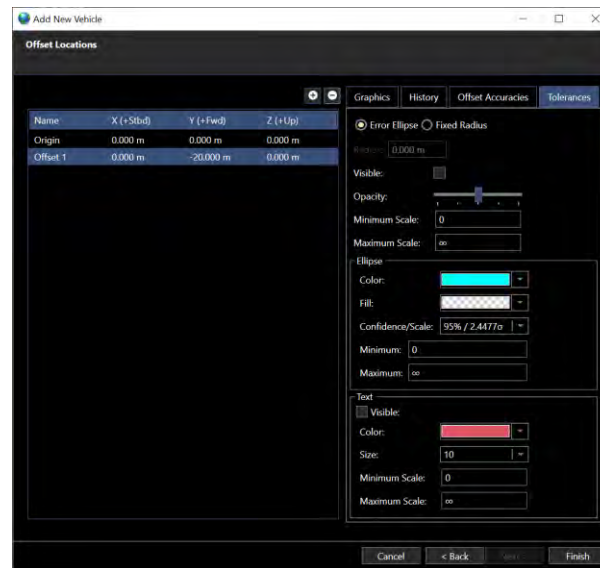

FIGURE 7-17 NEW VEHICLE WIZARD - OFFSET LOCATIONS PAGE - TOLERANCES TAB
- g. Edit the **Tolerances** (see Figure 7-17), this controls the display in the Map views of the estimated accuracy of the offset position, either that determined through rigorous error propagation by NavView or as estimated by the user